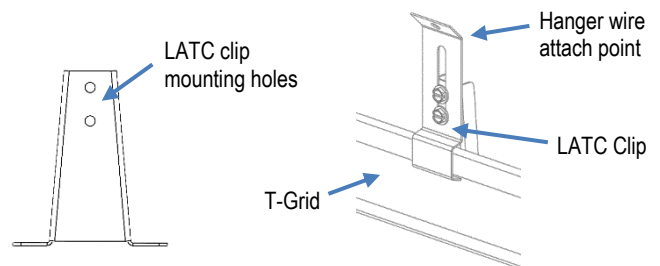

FIG. 13: ATTACHING LATC CLIPS TO T-GRID
- d. Once fixture is in T-Grid, attach LATC clips to LATC Adapter using screws provided. (Use LATC clips at all 4 locations). See Figure 13.
- a. Two switches located on the back of the Main Driver Enclosure allow for adjustment of the light output and the color of light (CCT) produced. See Figure 13.